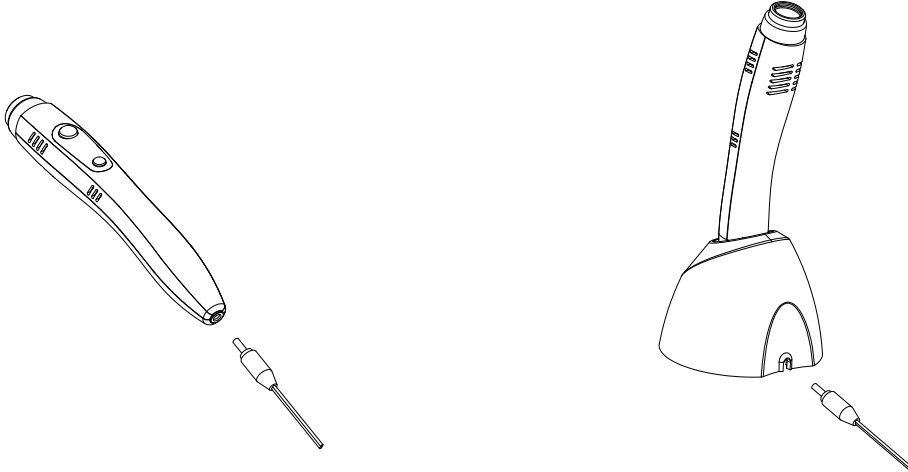

Figure 4
5. Plug the connector of the power supply into the back of the charging base, or plug it into the bottom end of the Light itself, as shown in Figure 4. Plug the other end of the power supply into the appropriate electrical outlet. As mentioned above, wait for at least 6 hours to completely charge the light before the first use.